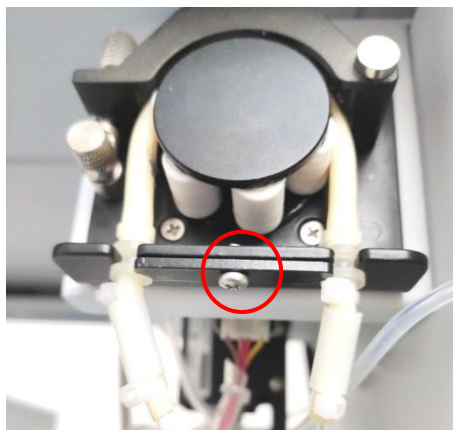

Fig.6.37
3)Unscrew the fixing plate of the pump tube of the TC acid peristaltic pump (Fig. 3.2) with a cross screwdriver, and remove the cover plate (Fig. 6.37).